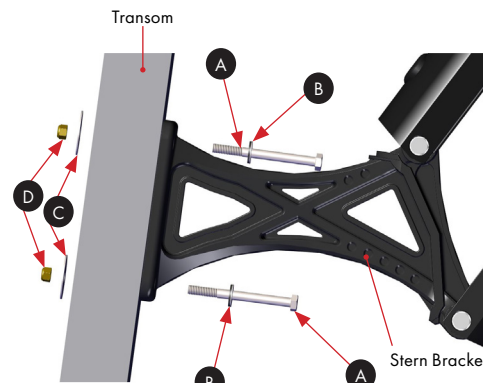

Figure 2
STEP 4 With a **1/2" Wrench** and **1/2" Socket**, fasten the Stern Bracket to the Transom using the **(4) Bolts A**, **(4) Neo-Bond Washers B**, **(4) Fender Washers C**, and **(4) Lock Nuts D**. The rubber backed Neo-Bond washers will protect the powder coated surface of the Stern Bracket and must not be over-tightened. **FIG. 2**